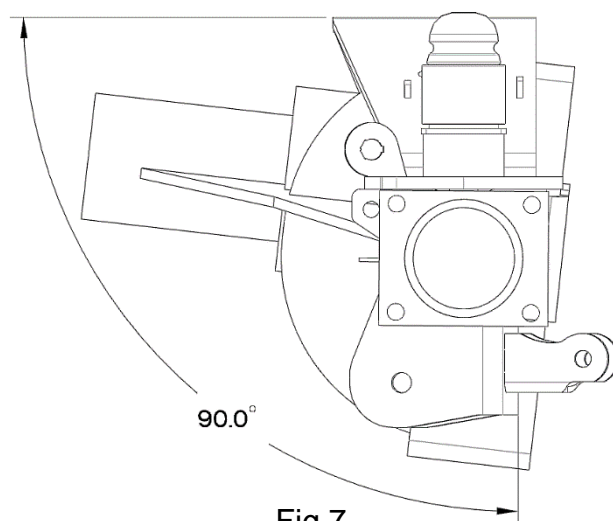

Fig.7
34. Position lower control arm mounts, set vertically at 0 degrees and tack weld in place (Figure 7).